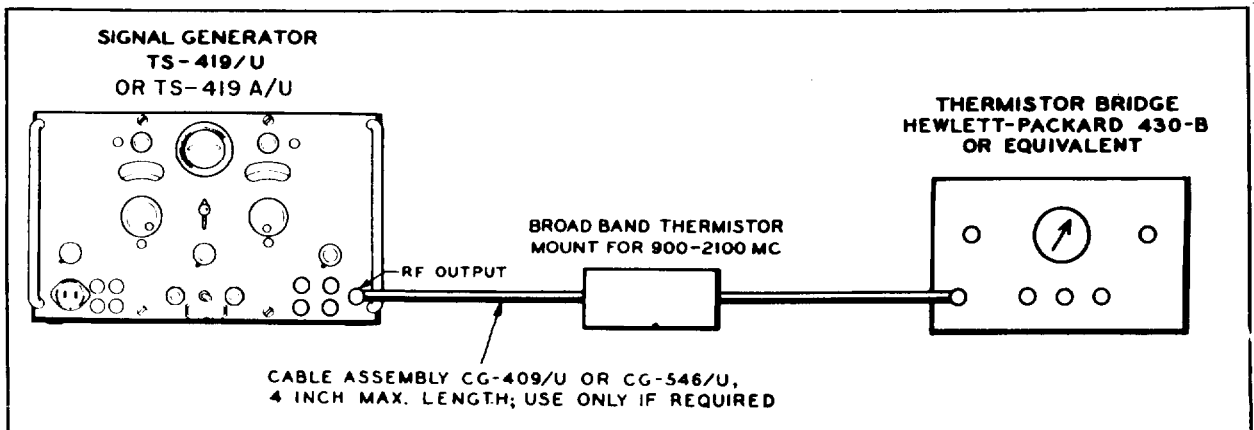

Figure 4-2. Test Connection Diagram for Measurement of R-F Power Output
(1) Make circuit connections to required teat equipment as shown in figure 4-2.
(2) Check to be sure that the clockwise stop on the OUTPUT ATTENUATOR control is effective at a dial setting of 160 K.
(3) If necessary to reset OUTPUT ATTENUATOR stop, refer to paragraph 10.i.(4)(f) of this section.
(4) Turn on Signal Generator TS-419/U and Thermistor Bridge Hewlett Packard 430-B, or equivalent. Allow a 20-minute warm-up period to insure complete stabilization.
(5) Tune SIGNAL FREQUENCY control of Signal Generator TS-419/U to 1600 me/sec.
(6) Set SELECTOR SWITCH to ZERO SET and adjust ZERO SET control until METER pointer is on line marked ZERO SET.